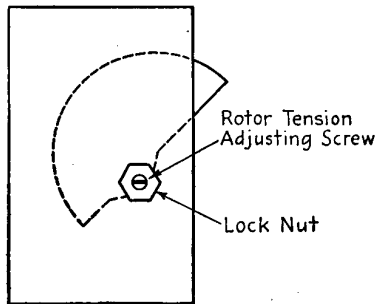

FIG. 14-20.—Rear view of tuning condenser, showing rotor tension adjustment.
3. *Check the tension on the rotor.* The friction bearing on the rear of the rotor shaft should be tight enough to hold the rotor in any position, even if the radio is jarred, and should be loose enough so that the condenser rotor shaft can be turned easily by hand. If the tension is wrong, it should be adjusted. Most variable gang condensers have a tension adjustment screw similar to that shown in Fig. 14-20. The lock nut is loosened and the adjusting screw is turned. Tightening the screw tightens the tension. The screw should be turned about a quarter turn in the correct direction, while the rotor is held stationary. The lock nut is then tightened and the tension checked. If further adjustment is required, the procedure